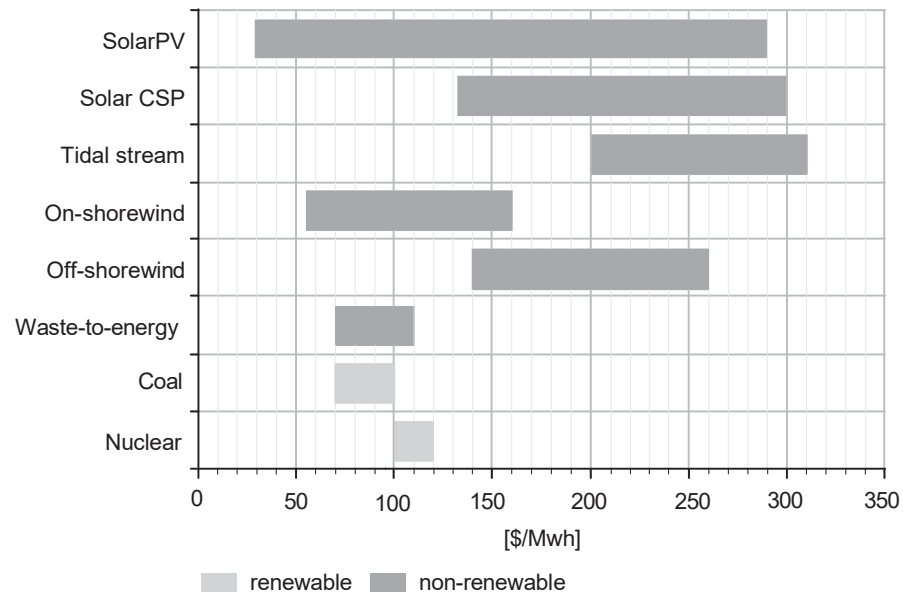

Fig. 1.11.4 Levelized cost of energy by technology
- The Fig. 1.11.4 shows indicative values for levelized cost of energy for different technologies.